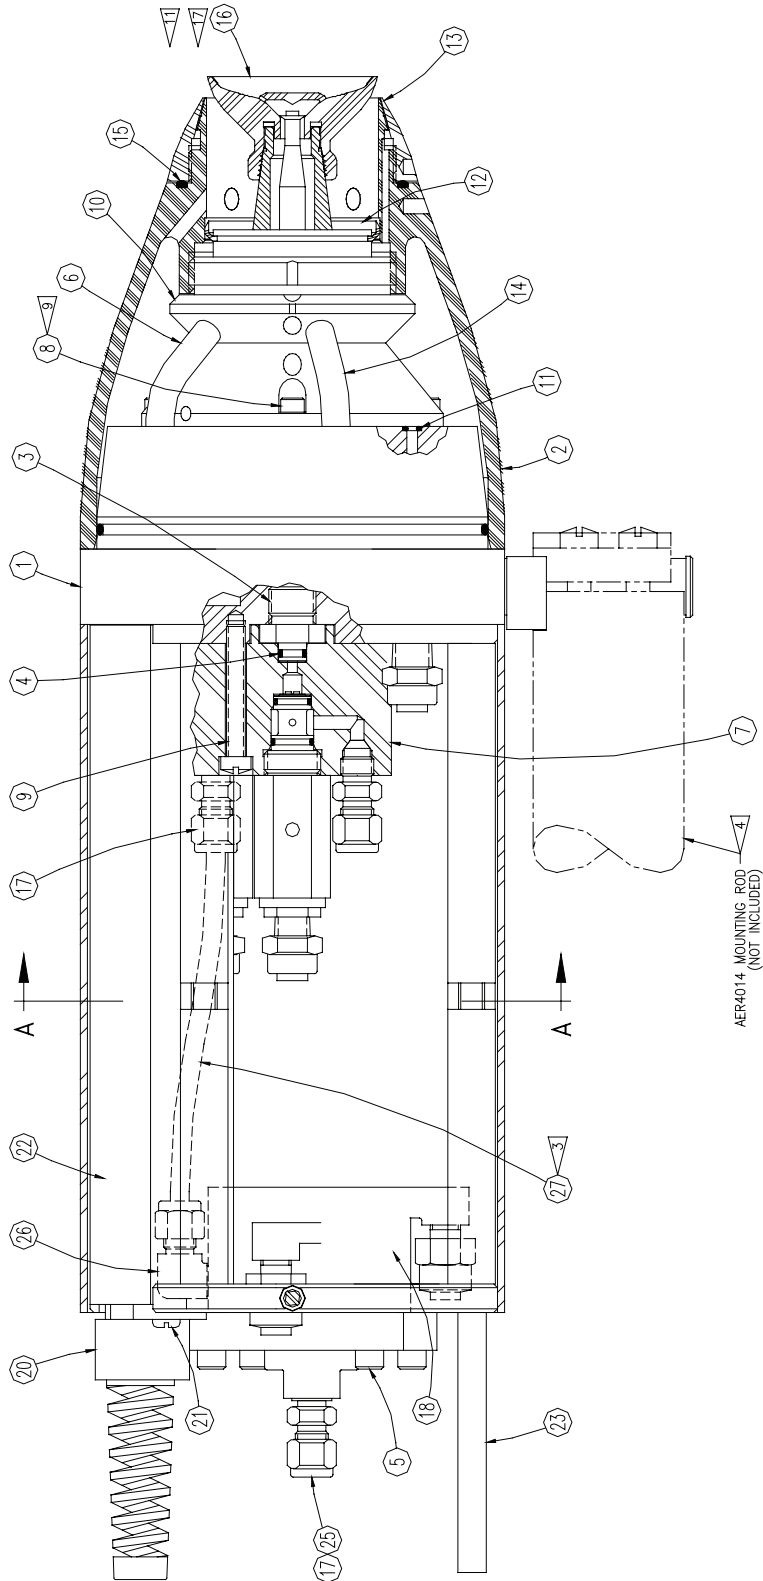

Figure 16a: Aerobell 33 Cross Section View
Remove the front shroud (Figure 16a, item 2) from the atomizer, using the RPM-419, or other properly fitting spanner wrench, and turning CCW (viewed as facing the front end).
Note that when the front shroud is removed, the shaping air cap (Figure 16a, item 13) is removed with it. The Aerobell 33 turbine (Figure 16a, item 10) and the bell assembly (Figure 16a, item 16) will now be exposed.
To remove the atomizer bell cup (Figure 16a, item 16), place the wrench, part number RPM-419, over the flats on the motor shaft to lock in place. Unscrew the bell by turning CCW with the other hand (facing the front of the atomizer). If the bell cannot be removed by hand, use a second RPM-419, wrench, placed over the wrench flats of the bell cup.
The turbine assembly (Figure 16a, item 10) is removed from the Aerobell 33 atomizer after removing the front shroud assembly. Four mounting bolts (Figure 16a, item 8) will then be exposed, which hold the turbine assembly to the air manifold assembly. These are the larger socket head screws, located toward the outer edge of the motor housing.
Holding the turbine assembly carefully so that it does not drop and using a 5/32 inch wrench, remove the four mounting screws which hold the turbine to the air manifold. Pull the turbine assembly straight forward until it is beyond the end of the fluid tube (Figure 16a, item 3) and the high voltage tube (Figure 16a, item 6) is out of the resistor block (Figure 16a, item 22).
Reassemble Note: Prior to replacing the turbine assembly, make sure the bearing air o-ring (Figure 16a, item 11) is in place on the air manifold assembly (Figure 16a, item 1). To replace the turbine assembly, center the turbine shaft with the feed tube, align the high voltage tube with the resistor block, the shaping air tube with the air manifold and push the turbine assembly slowly in. Holding the turbine securely in place, screw the four mounting
bolts (Figure 16a, item 8) through the rear of the turbine assembly into the air manifold assembly. Tighten the four mounting bolts alternately to a final torque of 15 lb•in.
The rear shroud (Figure 16a, item 33) can be removed for cleaning or inspection of the components on the inside of the assembly
Loosen the two captive screws (Figure 16a, item 28) by turning them inward (clockwise). Slide the shroud backward over the hoses and high voltage cable. Note that it is not necessary to remove the shroud completely from the hoses. Slide it backward (over the hoses) for easy accessibility to the components such as valves.
To remove the high voltage cable from the resistor module, first remove the retaining screw (Figure 16a, item 21) and slide the connector cover (Figure 16a, item 20) back over the cable. Then loosen the strain relief nut and pull the cable straight out of the module.
To remove the resistor module (Figure 16a, item 22), follow the procedures for removal of the rear shroud. Then slightly lift the rear of the module to clear the step in the rear bulkhead (Figure 17, item 12), and slide it backward until completely separated from the forward high voltage tube (Figure 16a, item 6).
To remove the fluid regulator (Figure 16a, item 18) follow the procedures for removal of the rear shroud. Then disconnect the air pilot lines at the regulator, and the output fluid line at its connection into the fluid manifold assembly (Figure 16a, item 7). Disconnect the fluid supply line at the regulator inlet port, loosen the retaining screws, and pull the regulator straight out of the bulkhead.
To remove the fluid manifold assembly (Figure 16a, item 7) follow the procedures for removal of the rear shroud. Then disconnect the air pilot lines at the tube connection of each individual valve.
Disconnect all fluid connections including the dump line, paint, and solvent supply lines from the fluid manifold. Then using a medium flat head screwdriver, remove the mounting screws (Figure 16a, item 9) and pull the manifold straight back to separate it from the fluid tube. To remove each individual fluid valve from the manifold use a 7/8 open-end wrench, and turn the valve CCW to disengage the threads. Then pull the valve straight out of the manifold.
To remove the fluid tube assembly (Figure 16a, item 3), follow the procedures for removing the rear shroud and fluid manifold assembly. Once the fluid manifold is removed, the fluid tube will be exposed at the rear of the air manifold. Using a standard 3/4 inch socket, engage the hexagon flats on the feed tube, and turn CCW to loosen. After disengaging the threads completely, pull the feed tube straight out of the air manifold.